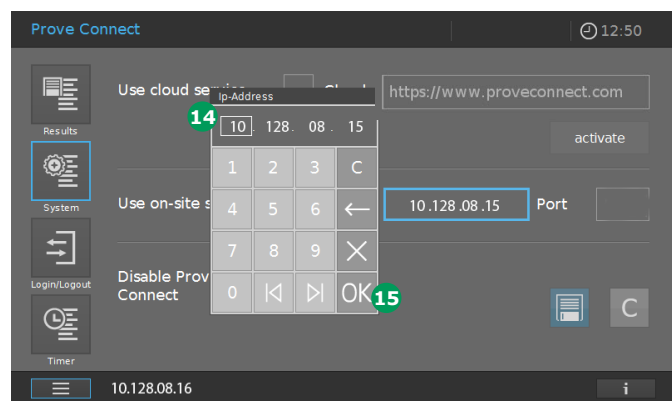

Figure 41 - Screen of Spectroquant® Prove / Prove plus (Figure 37) with entered IP address of the PC on which Prove Connect runs
10. Click in the field: Port (text box with the blue border). The entry field appears 14 (Figure 41).
12. Confirm the entered Port with "OK" 15 (Figure 41).